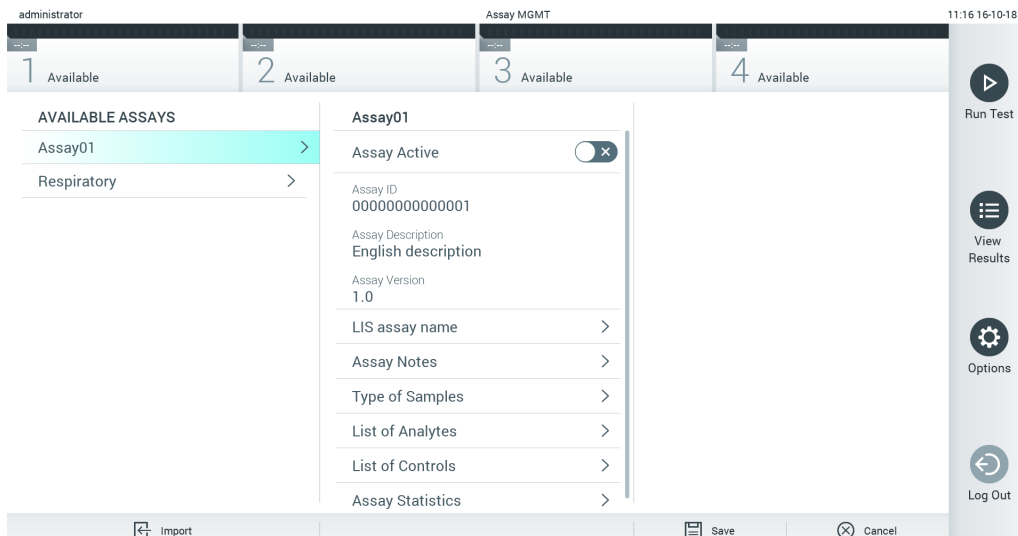

Figure 59. Assay management screen.
2. To import the new assay(s) to the QIAstat-Dx Analyzer 1.0, press the **Options** button and then the **Assay Management** button. The **Assay Management** screen appears in the content area of the display (Figure 59, next page).